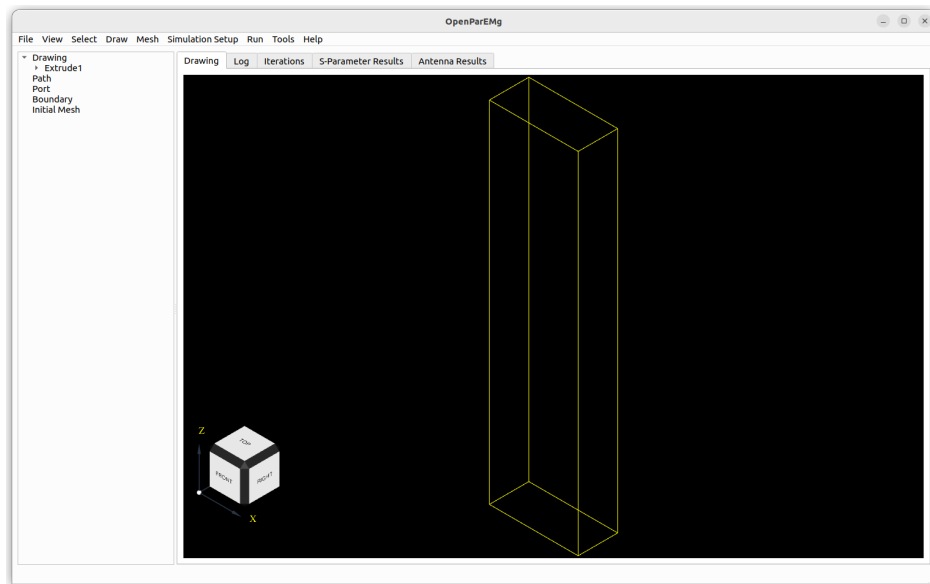

Figure 1: Screen shot of the rectangle extruded 90 mm.
- The rectangular waveguide should look like that in Fig. 1.